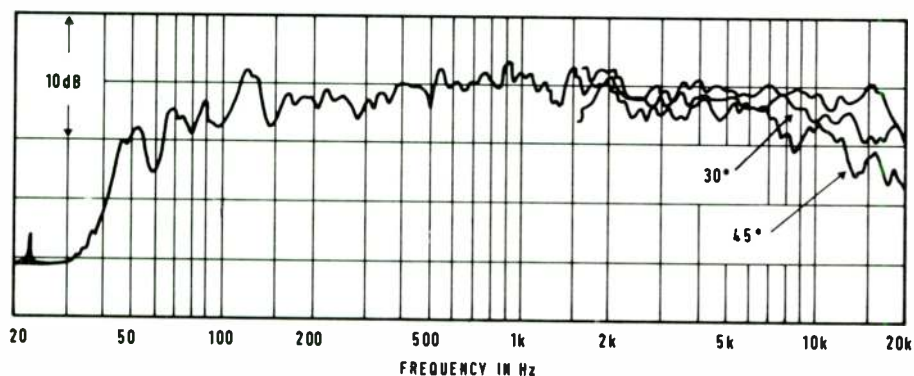

FIGURE 3: Measured responses, both on and off-axis, of the speaker using a new diaphragm constructed of a combination of materials.
*Since this article appeared in *Hi-Fi News & Record Review*, the suppliers of the material for Mr. Pinfold's original plastic diaphragm have ceased manufacture of that product. In a letter to *Hi-Fi News & Record Review* (June 1983, p. 19), Mr. Pinfold writes, "We finally settled on a combination of materials, which is more stable and a little easier to construct. As a bonus, the new structure has resolved some torsion mode problems which were adversely affecting the response." See Fig. 3 for the measured responses, both on and off-axis, of the speaker using the new diaphragm.